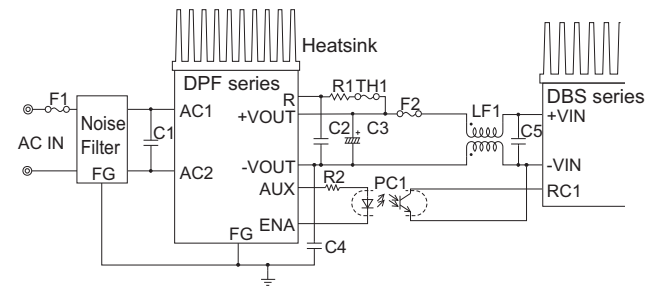

Fig.3.1 Standard connection method
To use DPF1000, connection shown in Fig.3.1 and outside attached components are required. Through this connection, DC output voltage can be obtained from AC input voltage. AC input voltage and DC output voltage are not insulated.
- For connecting the DBS/DAS series, see Fig.3.1.